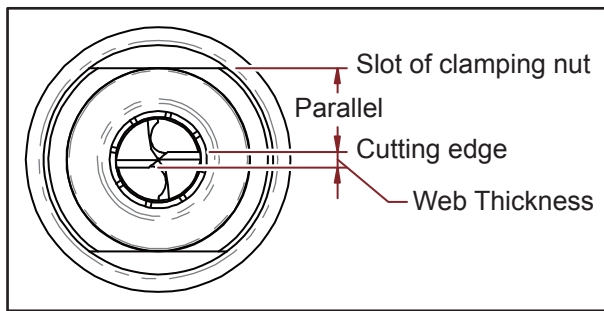
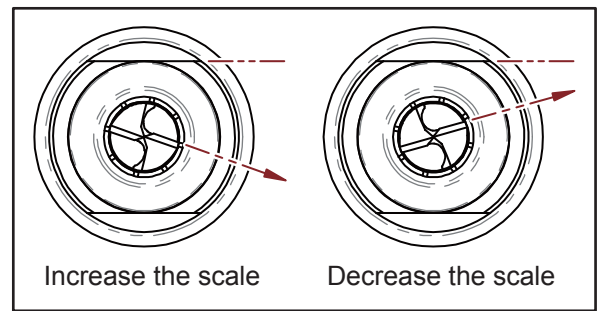

Fig. 7-3
Fig. 7-4
※ After taking the Chuck set out, make sure the cutting edge of the drill is parallel with the slot of clamping nut (Fig. 7-3), if it is not parallel, please re-adjust it. (Fig. 7-4)
- ✘ Always keep the parallelism before starting the grinding procedure. (Fig. 7-3)